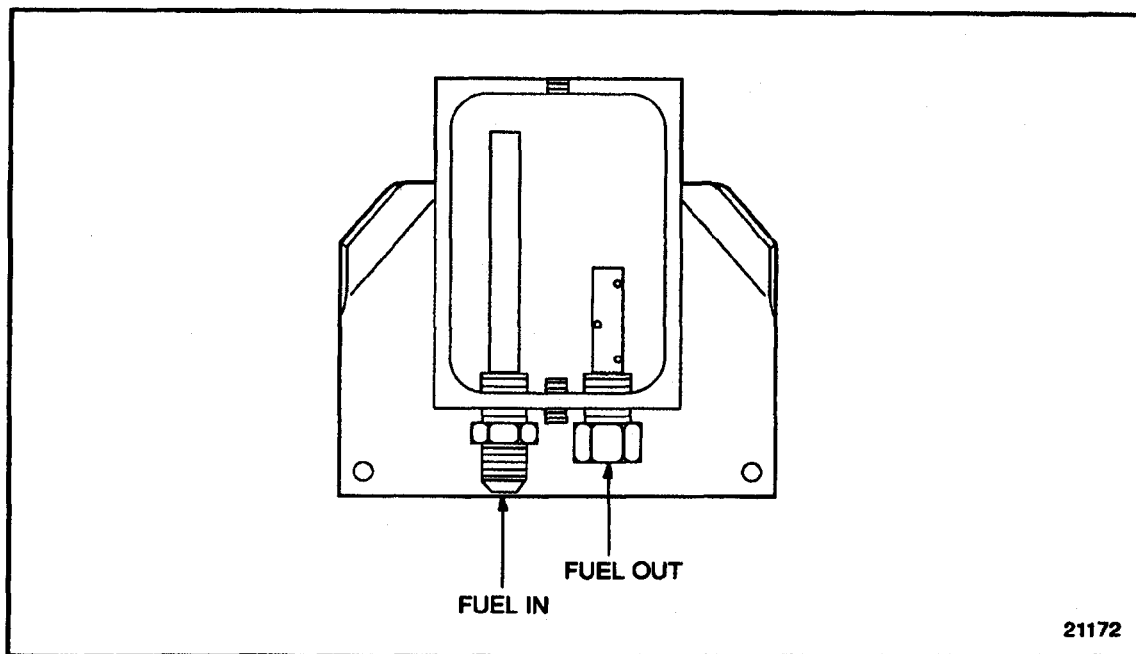

Figure 2-72 PRO-CHEK Valve Cutaway View
- The male fitting with the long, solid pipe is installed in the fuel in port. See Figure 2-72.
- The female fitting with the short, perforated pipe is installed in the fuel out port. See Figure 2-72.